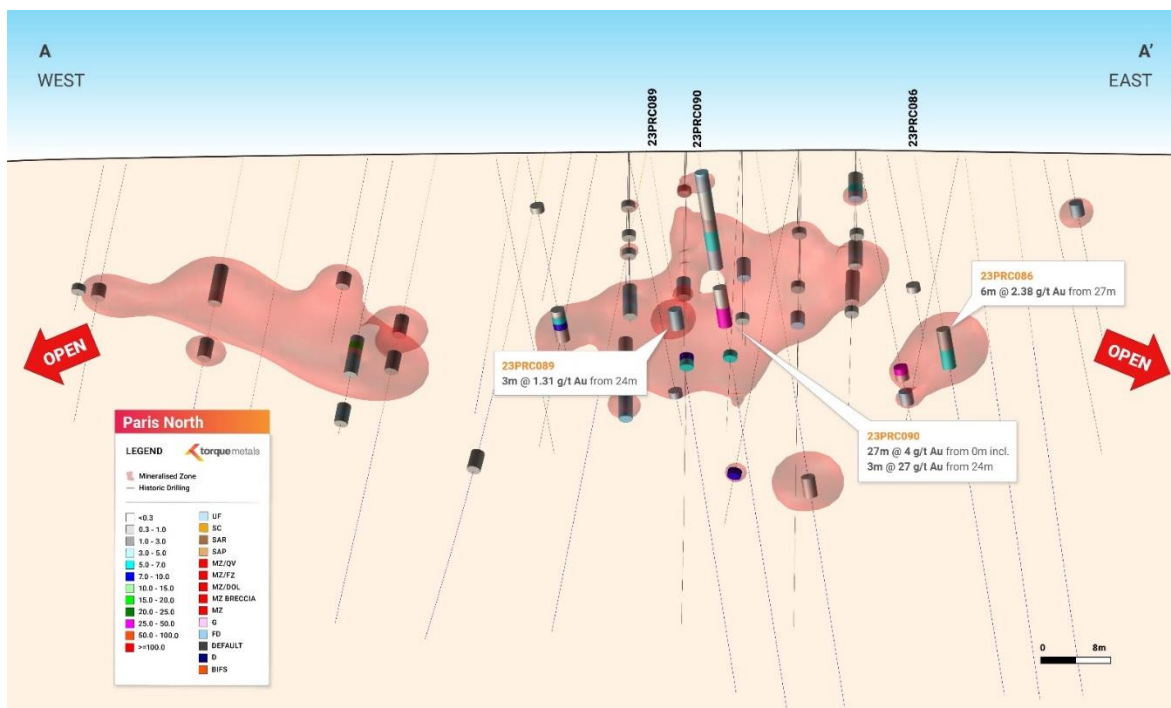

Figure 2 Paris prospect, Paris north lode, W-E section of the mineralised structure
- 100m north of Paris historic open pit, Torque confirmed a from-surface mineralised zone (Figures 2, 3), best result of:
100m north of the Paris open cut a mineralised structure named Paris North was located at surface (Figure 2 and 3). Drilling reported assays of: